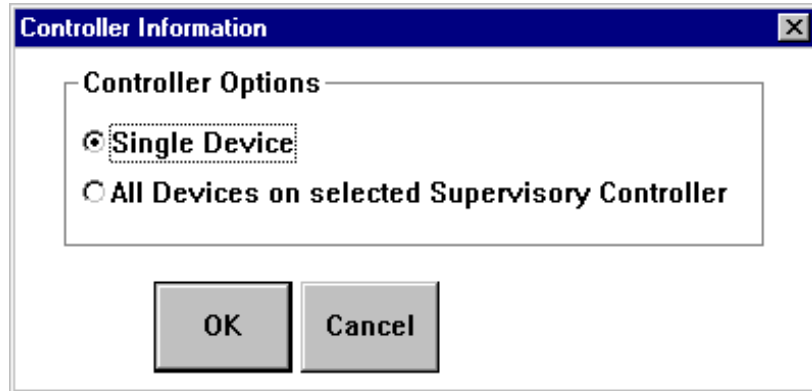

Figure 17-12: Action - Controller Information Dialog Box
1. On the Action menu, click Controller Information. The Controller Information dialog box appears (Figure 17-12).